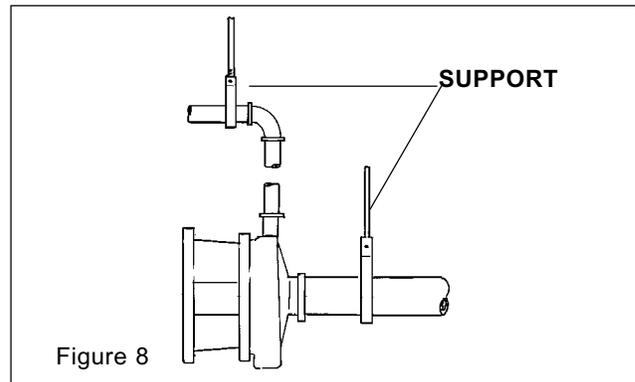

Figure 8
**NOTE:** Properly support supply and discharge piping to the pump to prevent strain on the pump casing. (Figure 8)